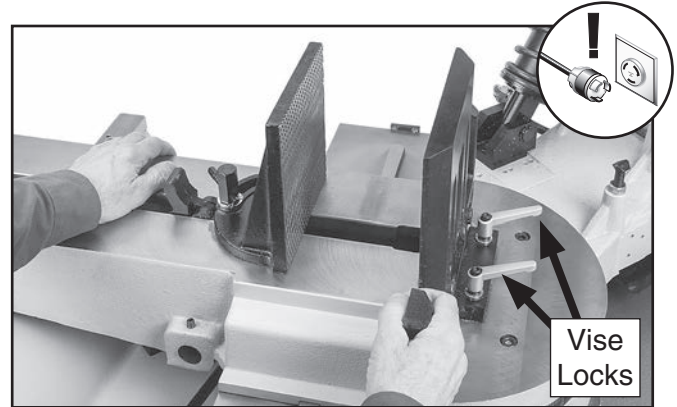

Figure 43. Location of vise base locks.
4. Loosen two vise locks at base of vise (see Figure 43).